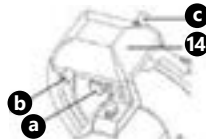

Fig. 4
- Remove the sharpener (14) and turn it by 180°.
- Put the sharpener (14) into the special rail and tighten the fixing screw (a) again.
- Hold the depressed button (b, fig. 4) of the sharpener on the back of the sharpener (1) and leave the device turned on for approx. 30-40 seconds, until the burr appears on the knife.